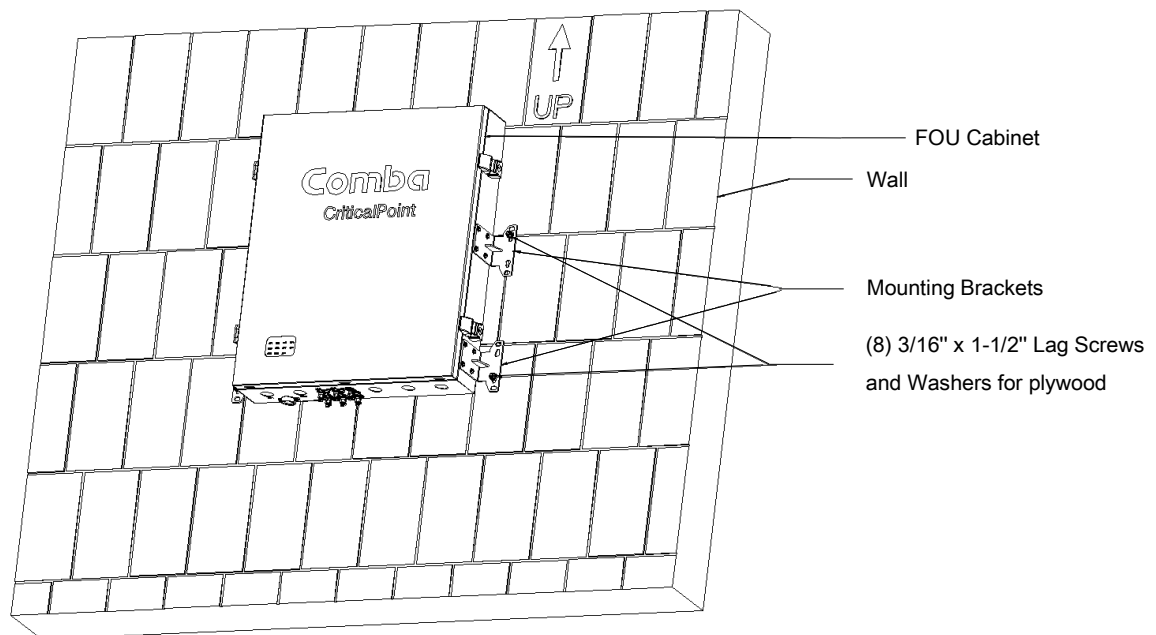

Figure 59: V2 FOU Wall Mounting
- Install the V2 FOU cabinet on the wall as shown in Figure 59. It is recommended to use 3/16" x 1-1/2" screws and fender washers when mounting to 3/4" fire treated plywood. If mounting to a concrete wall, DIN Rails, or any other materials, refer to the local building code.